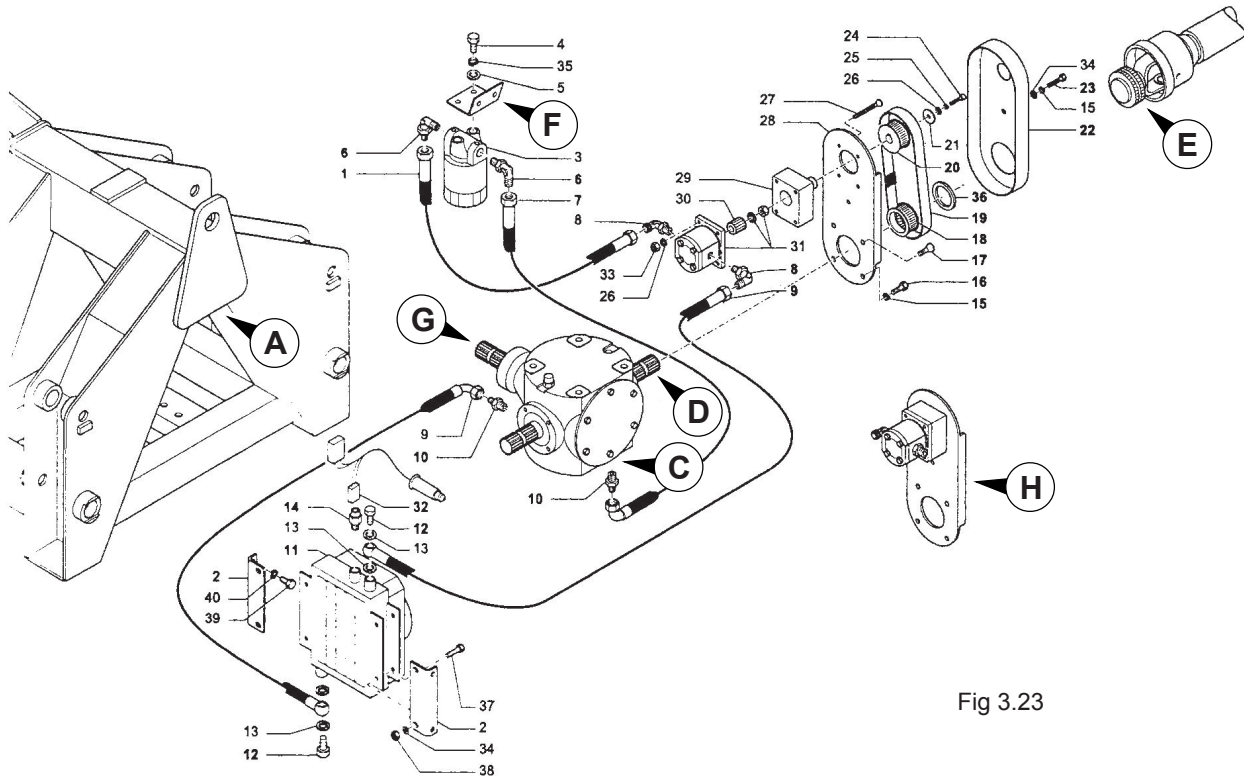

Fig 3.23
- Disconnect the central shaft from the PTO **G**, Fig 3.23.